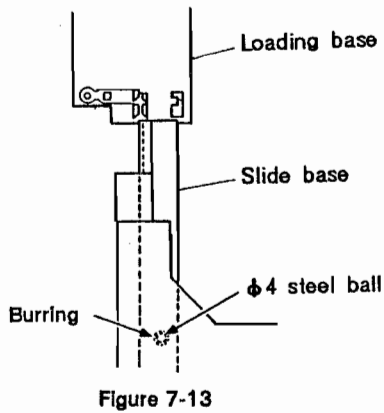
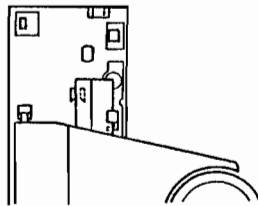

Figure 7-13
Figure 7-14
<ul style="list-style-type: none"> Mount the disc tray according to the following procedure after the adjustments. <ol style="list-style-type: none"> Remove the disc and then the spacer. While lifting part (B) of the clamp holder in figure 7-4 with your right hand, hold part (C) of the tray with your left hand (hold the $\phi 4$ steel ball with your index finger of the left hand in order not to drop the ball), insert the tray while putting the slide base into the plastic part on the loading base as shown in figure 7-13. (Care is required not to damage the front panel which may be occurred when the front side of the front panel touches the burring on the slide base in the $\phi 4$ steel ball section.) Insert the slide base into the two plastic parts at the back of the loading base (figure 7-14). Push the tray all the way down.